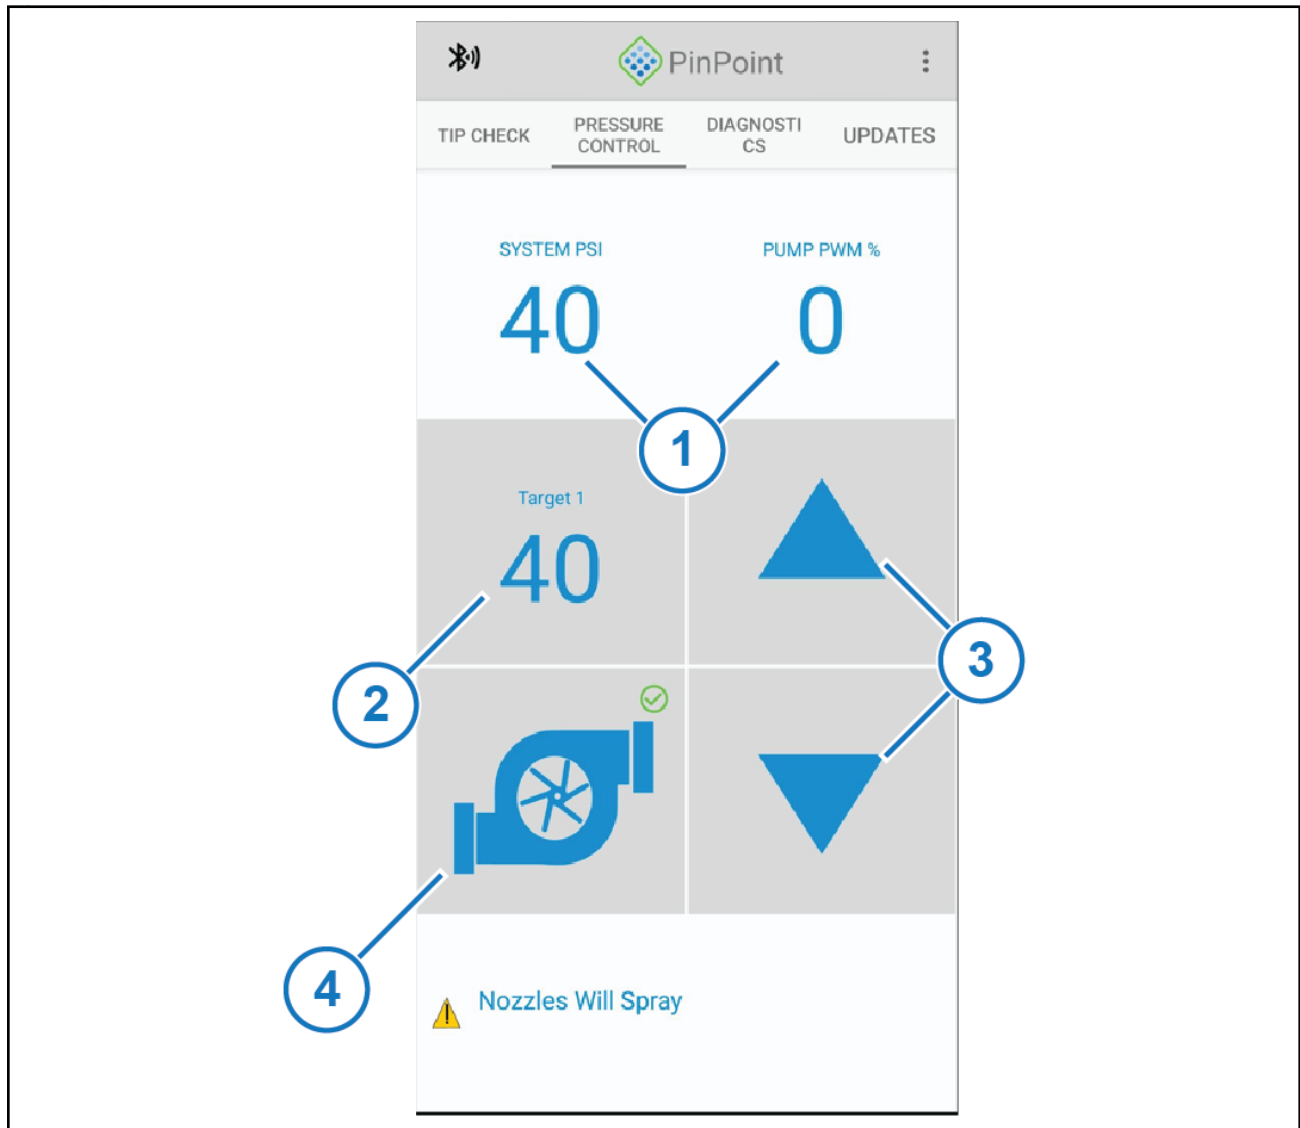

Figure 5: Pressure Control
2. The System PSI and Pump PWM (Figure 5, Item 1) display current system values.
3. The Target icon (Figure 5, Item 2) is used to toggle between set pressure points.
4. The Up and Down arrows (Figure 5, Item 3) are used to increase and decrease target pressure.
5. The Pump icon (Figure 5, Item 4) is used to toggle the pump on and off.